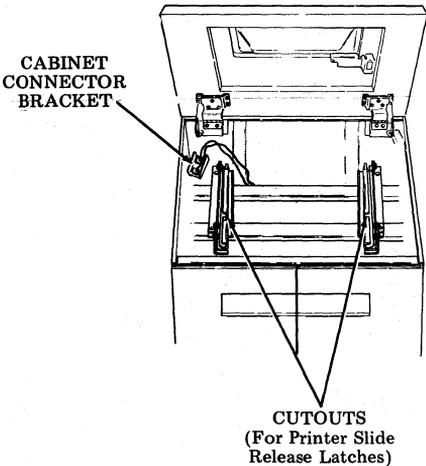

Fig. 9
- (f) Lift printer up and out of cabinet (Fig. 9).